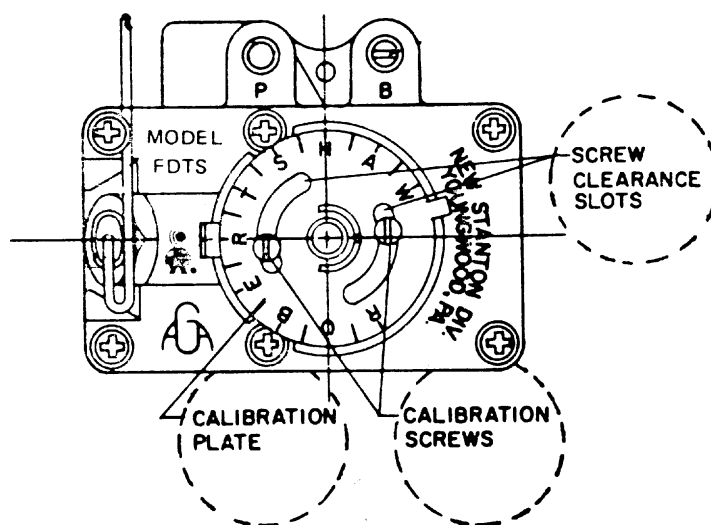

Fig. 9
2. Remove thermostat dial and loosen calibration screws (Fig. 9) until plate moves freely.